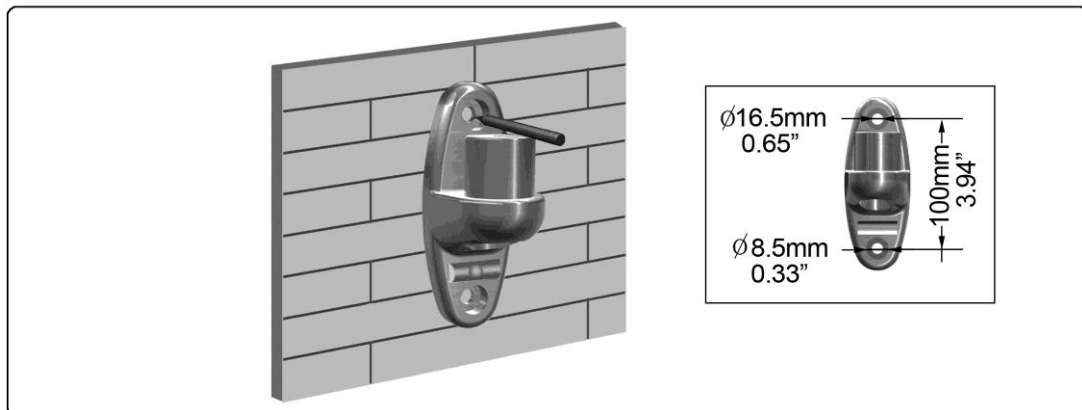

Figure 1-6
1. Place the Wall Plate (3) on the wall and mark the pilot holes (See Figure 1-6).